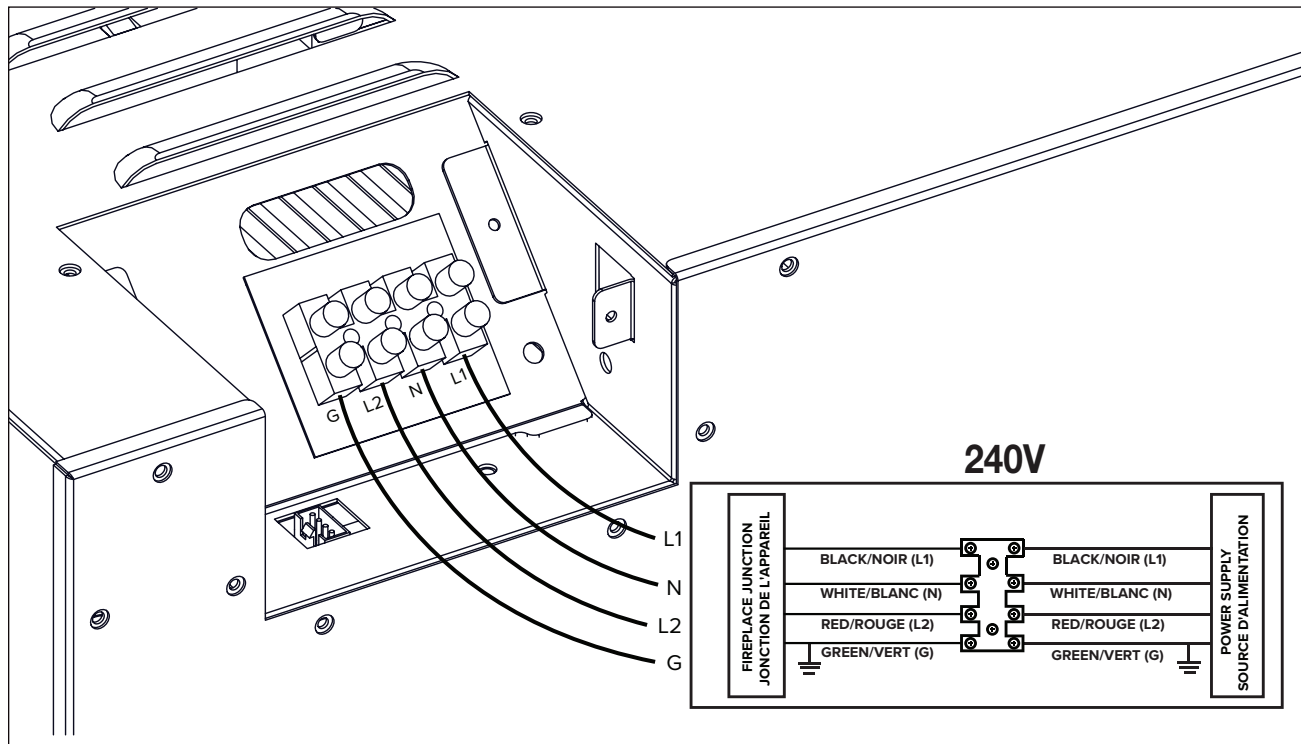

Fig. 10
4. Insert L2 wire to the designated L2 Terminal. Tighten the screw **(Fig. 10)**.